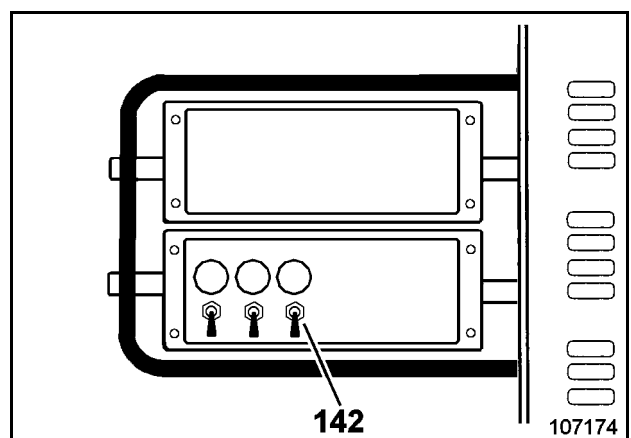

Fig. 2-99:
- Switch on the back-up heating using switch (142, Fig. 2-99:). The pilot lamp above switch (142) lights up.